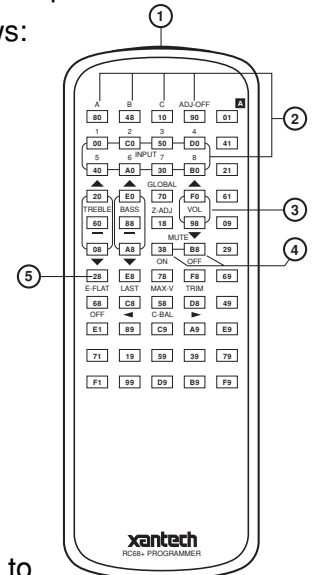

Fig. 2 The RC68+ Programmer
4. When a code group is chosen, "teach" volume commands from the RC68+ Programmer (see **Fig. 2**) into learning remote controls (and the keypad), dedicated to each room. You may use the Xantech URC learning remote controllers for this purpose.